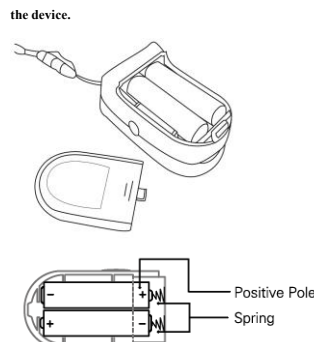

Figure 3 Batteries installation
- Step 1. Refer to Figure 3, and insert the two AAA size batteries properly in the right direction.